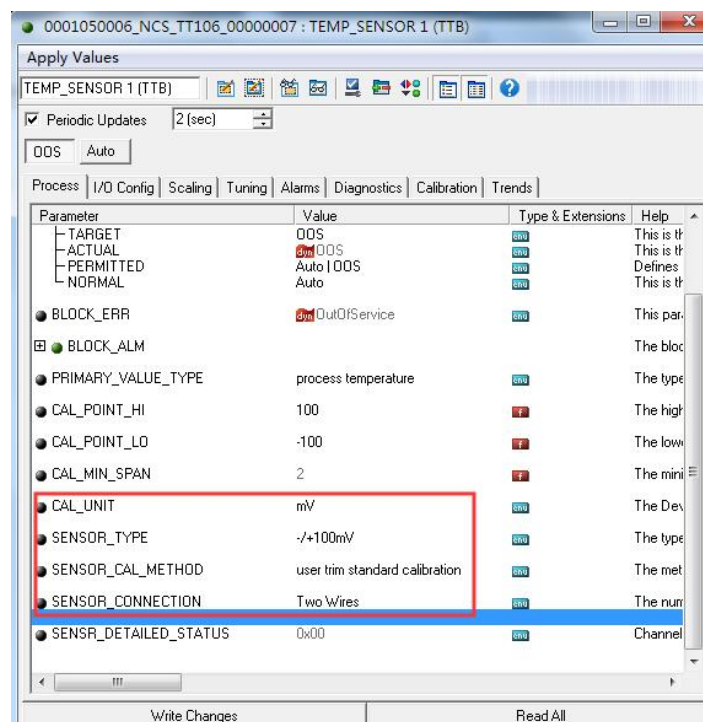

Figure 3.8 Two-point linearization calibration configuration diagram
(1) Set the TEMP\_SENSOR1 MODE parameter of the transducer block to OOS, and set the SENSOR\_TYPE parameter to  $\pm 100\text{mV}$ . Set the calibration unit parameter CAL\_UNIT to mV according to the sensor type, and set the parameter SENSOR\_CAL\_METHOD to "User Trim Standard Calibration". The setting diagram is shown in Figure 3.8 below.